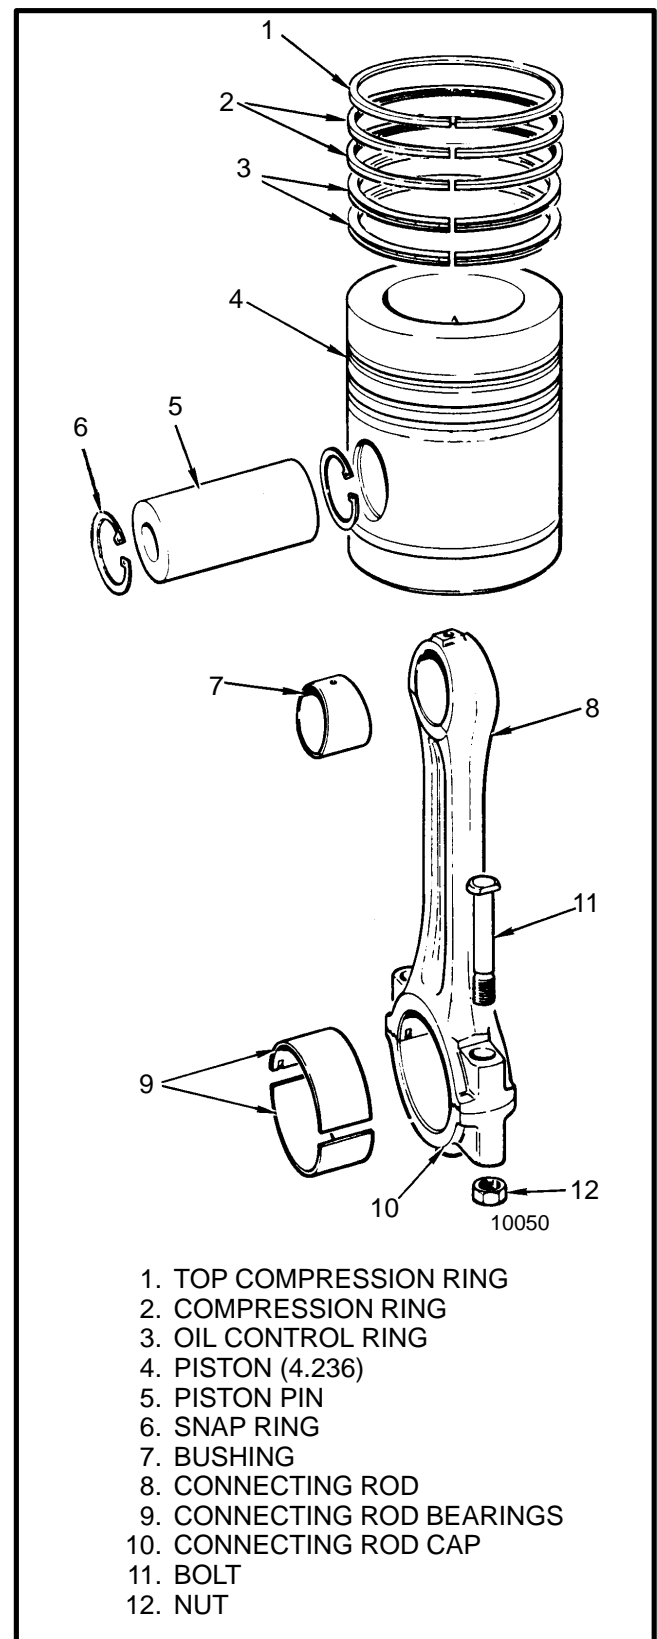

FIGURE 19. PISTON AND CONNECTING ROD ASSEMBLY
NOTE: The 4.236 engine has five piston rings on each piston. See FIGURE 19.
4.236 ENGINE (See FIGURE 19.)